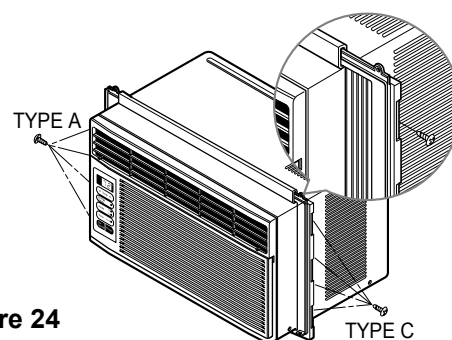

Figure 24
1. Insert the guide panels into the guides of the air conditioner. Fasten the curtains to the unit with screws (TYPE A), as shown Figure. 24.